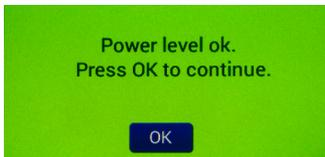

Fig. 68—(Left) Power level is restored when the unit is plugged into a power source.
1. When power is restored a green message appears (Fig. 68). Press **OK**.